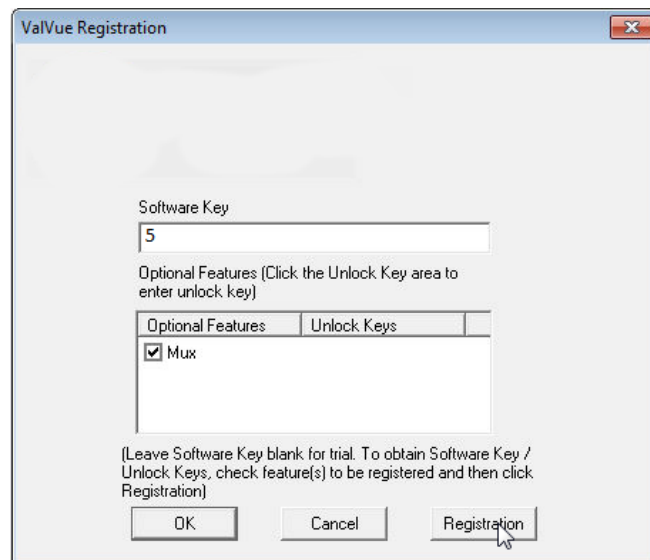

Figure 28 - Entering Software Key
4. Click **OK**. On the 2nd registration screen, enter the software key returned by the factory (Figure 28).